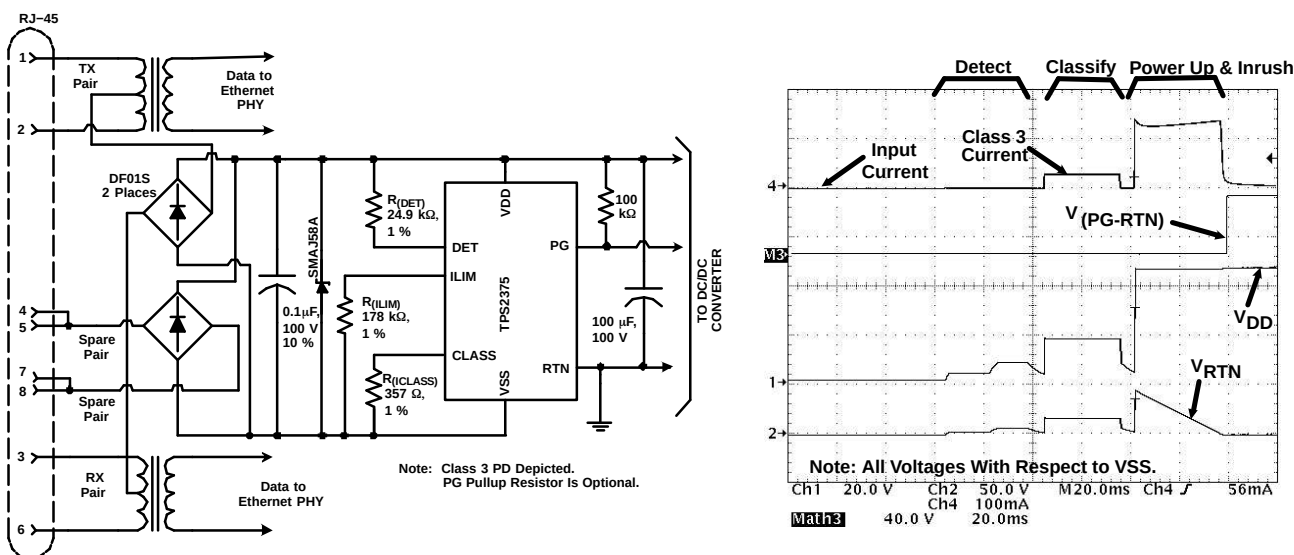

Figure 1. Typical Application Circuit and Startup Waveforms
(1) Stresses beyond those listed under “absolute maximum ratings” may cause permanent damage to the device. These are stress ratings only, and functional operation of the device at these or any other conditions beyond those indicated under “recommended operating conditions” is not implied. Exposure to absolute-maximum-rated conditions for extended periods may affect device reliability.
(3) SOA limited to  $V_{(RTN)} = 80$  V and  $I_{(RTN)} = 515$  mA.
(4) Surges applied to RJ-45 of Figure 1 between pins of RJ-45, and between pins and output voltage rails per EN61000-4-2, 1999.